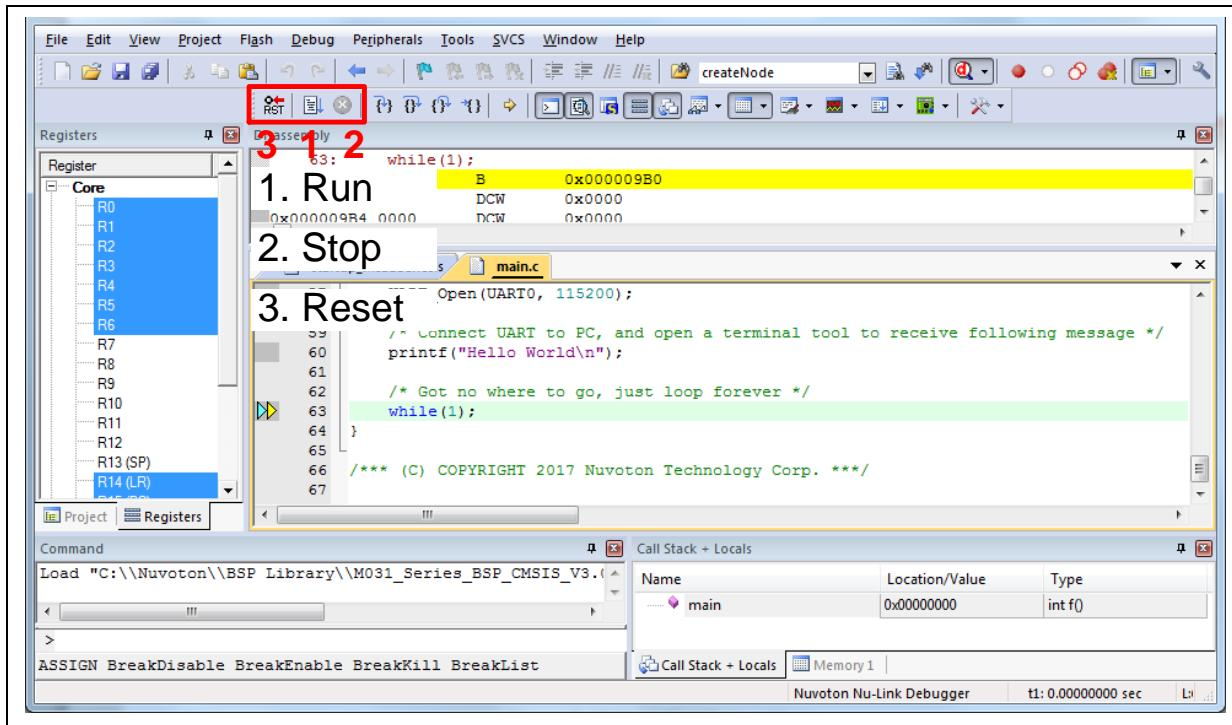
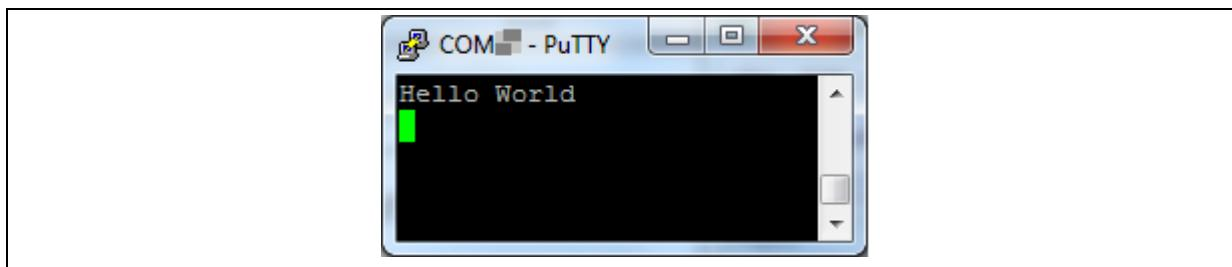

Figure 4-13 Keil MDK Debug Mode
Figure 4-14 Debug Message on Serial Port Terminal Windows
- Figure 4-13 shows the debug mode under Keil MDK. Click "Run" and the debug message will be printed out as shown in Figure 4-14. User can debug the project under debug mode by checking